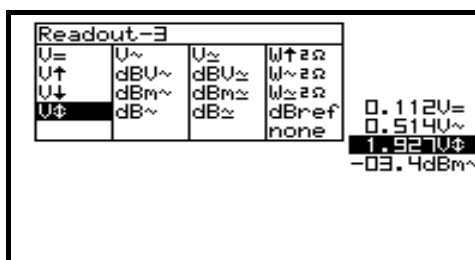

Fig 19
5. Pressing the 'meter'-key selects the third readout location (Fig. 19)
6. Press the cursorkeys to highlight the desired readout function for meter3 readout. (Fig. 19)